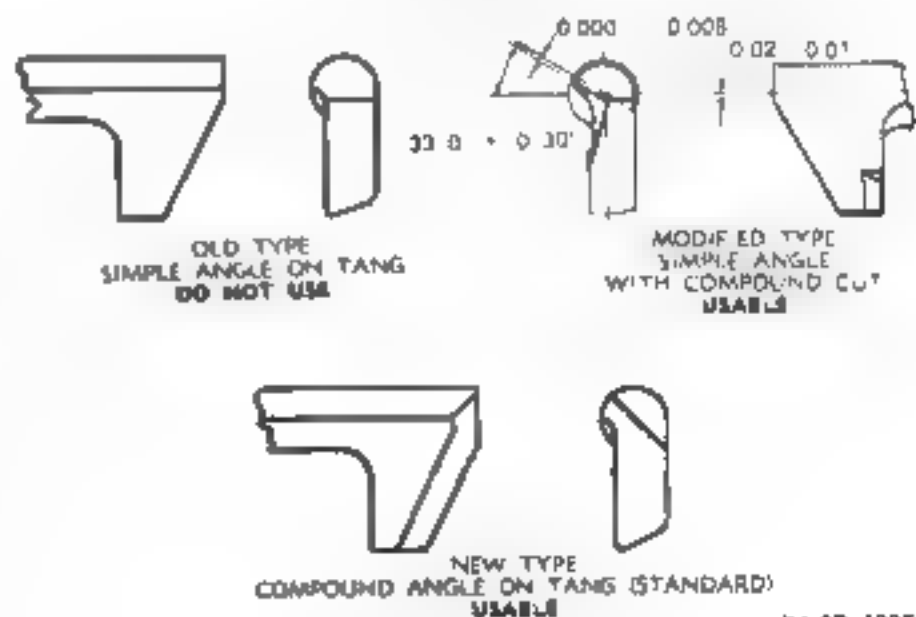

Figure 62. Firing pin 6200976.
h. Check to assure that only the new type of modified type firing pin (Fig. 61) is used. The old type pins can be modified by depot maintenance if the quantity involved warrants the work required to accomplish this (Fig. 62) Function test bolt and firing pin.